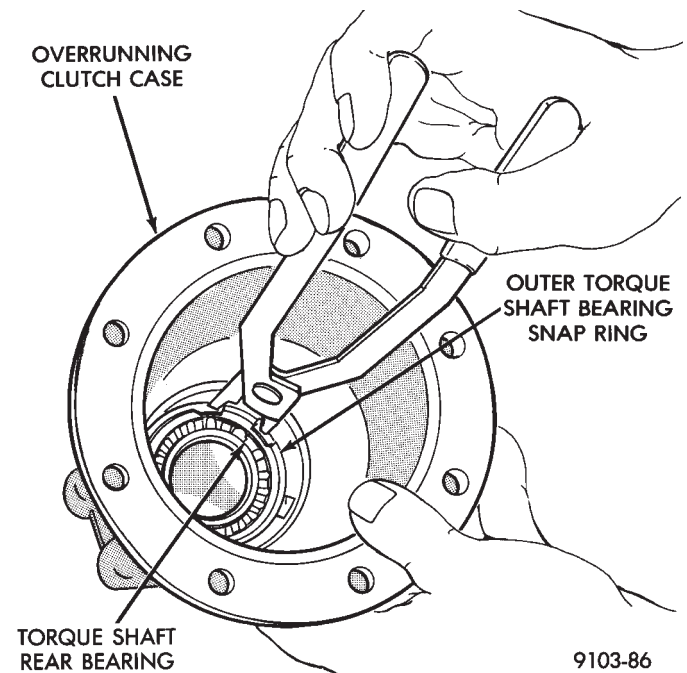

Fig. 15 Torque Shaft Rear Bearing Snap Ring
(12) Remove inner torque shaft bearing snap ring.
(13) Separate overrunning clutch case from torque tube.
(14) Remove rear torque shaft bearing retaining outer snap ring in overrunning clutch case (Fig. 15).
(15) Remove rear torque shaft bearing.